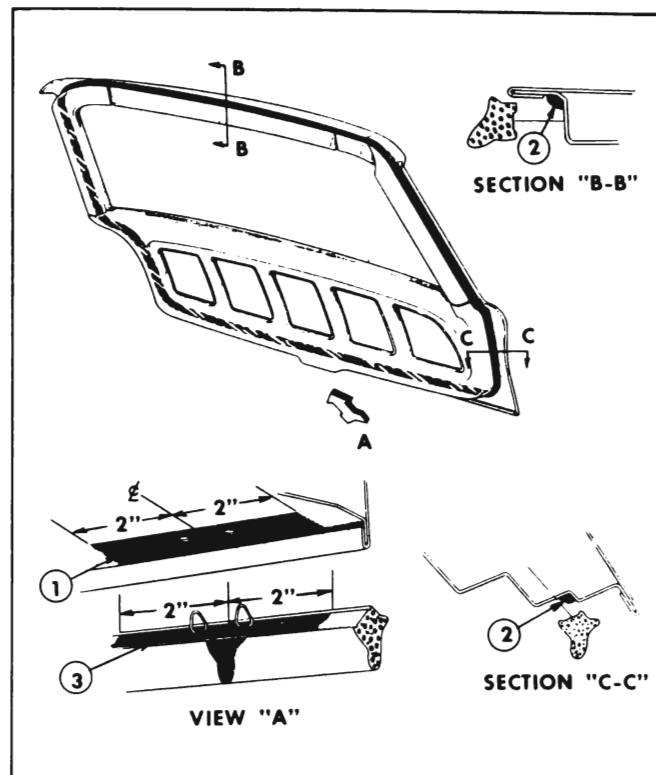

Figure 13-85 — Back Door Weatherstrip Installation
3. For a distance of two (2) inches on both sides of the butt joint location (bottom center of door), apply weatherstrip adhesive (neoprene type) to the door panel surface contacted by weatherstrip (see "1" in View "A", Figure 13-85).
4. Apply a bead of weatherstrip adhesive (black) in the corner of the rabbet, as shown at "2" in Sections "B-B" and "C-C" in Figure 13-85, completely around door.
5. For a distance of two (2) inches on both ends of weatherstrip, apply a coat of weatherstrip adhesive (neoprene type) to the weatherstrip surface which contacts the door panel as indicated at "3" in View "A", Figure 13-85.
7. Apply weatherstrip adhesive (neoprene type) to butt ends of weatherstrip and cement ends together to form an even butt joint. See View "A", Figure 13-85.